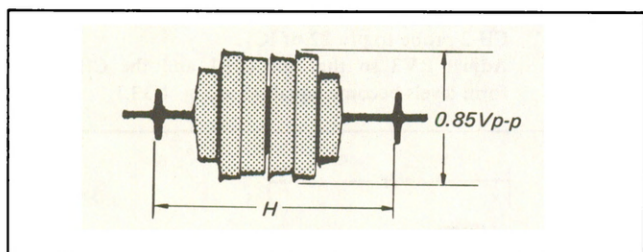

Fig. 4-35. ACC adjustment
- (1) Supply the color bar signal and set up the RECORD mode.
- (2) Connect the oscilloscope to pin 11 of IC2.
- (3) Adjust RV7 for 0.85 Vp-p. (See Fig. 4-35.)